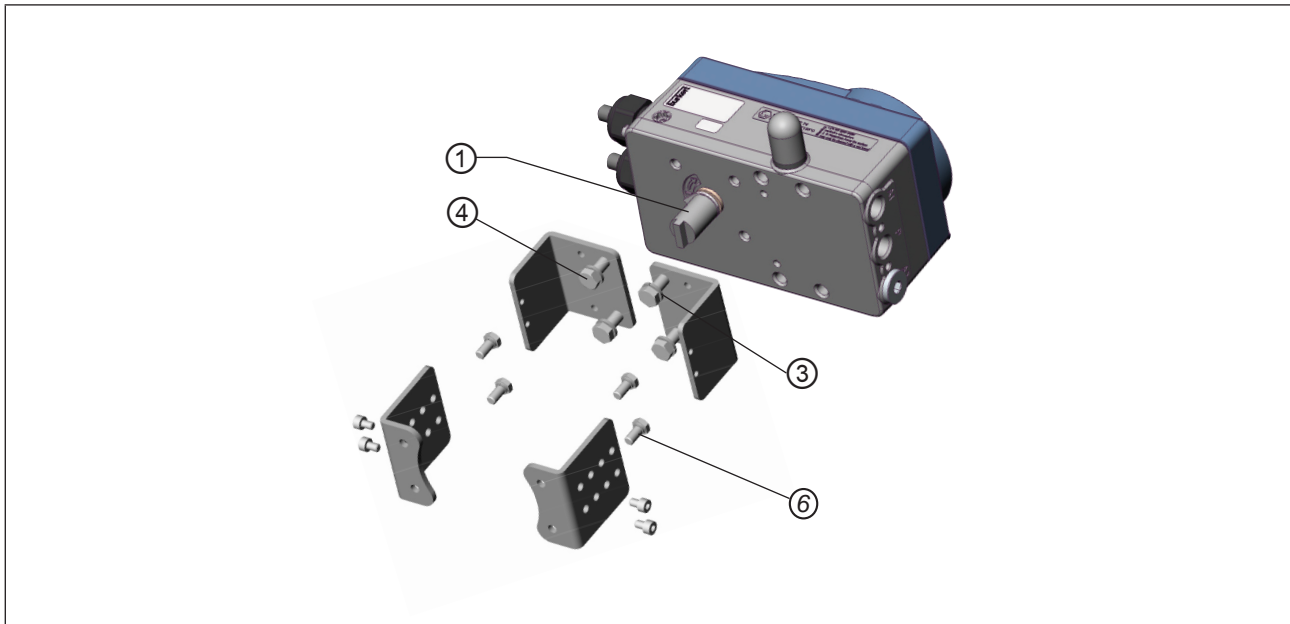

Fig. 29: Attaching assembly bridge (schematic representation)
→ Attach the assembly bridge to the positioner using four hexagon bolts ③ and spring lock washers ④ (see "Fig. 29").